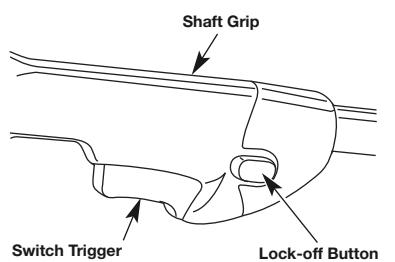

Fig. 11
- Press and hold the lock-off button (Fig. 11). This makes the switch trigger operational.
- While holding the lock-off button, press and hold the switch trigger (Fig. 11).